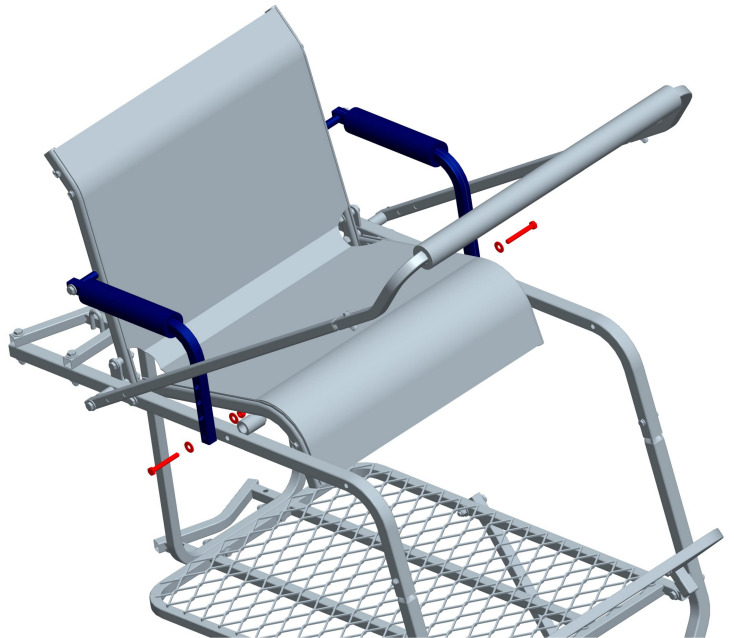

Figure 16
Install two Armrest to the Bending Bars using two(2) M8x60 Bolts, four(4) Steel Washers and two(2) Locknuts as shown in Figure 16. Securely tighten bolts.